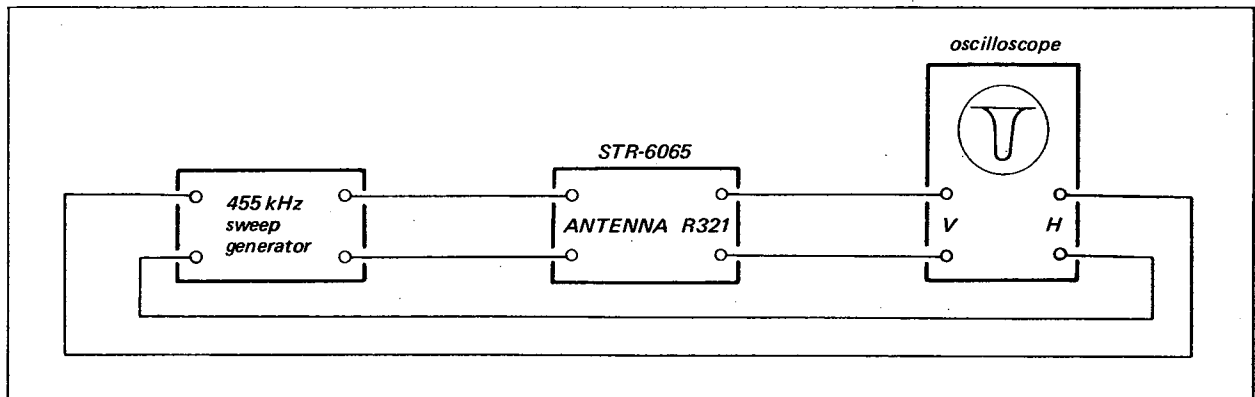

Fig. 3-12. A-m i-f strip alignment by sweep generator
4. With the equipment connected as shown in Fig. 3-12, adjust the oscilloscope controls and generator output to provide a visible indication.